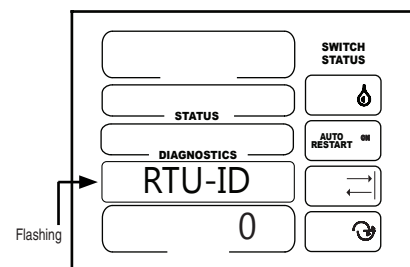

Figure 38-3
- The RTU ID number 0 is the factory setting for all RTU devices. See figure 38-3.
1. RTU-ID should be flashing. See figure 38-3.